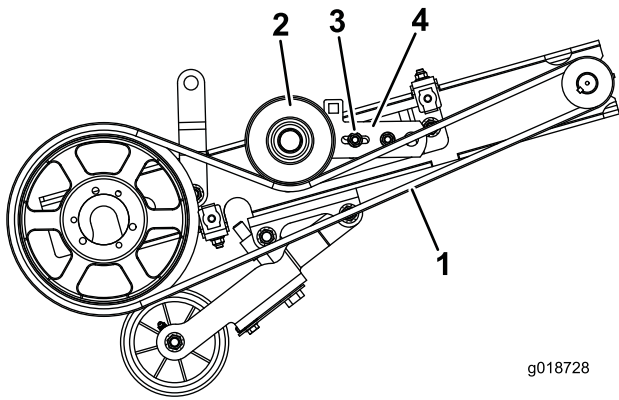

Figure 24
1. Remove the nut and bolt securing the idler pulley bracket (bolt in slotted hole in bracket) to the tension-adjusting bracket (Figure 24).
4. Remove the lower belt guard and reel drive belt (Figure 24).